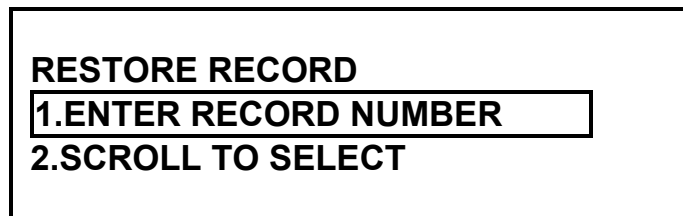

Figure 40.0 Restore Record Menu
- b. **Origin:** From the “Restore Record Menu” (Figure 40.0) selection menu option 1.